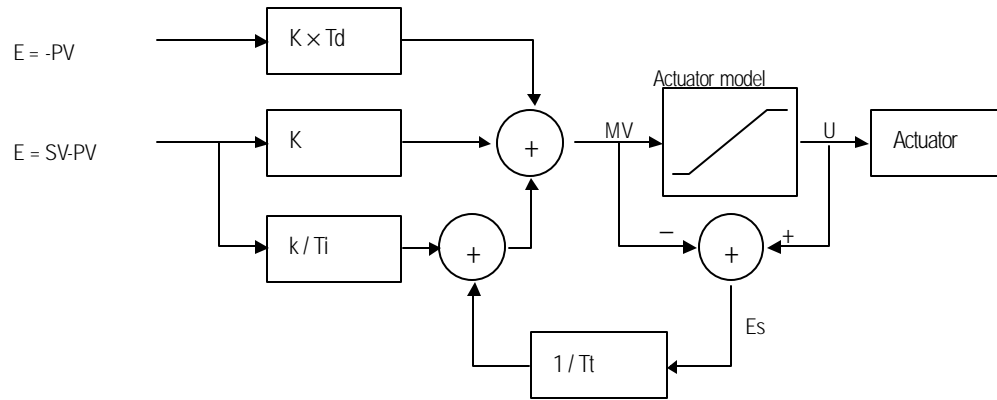
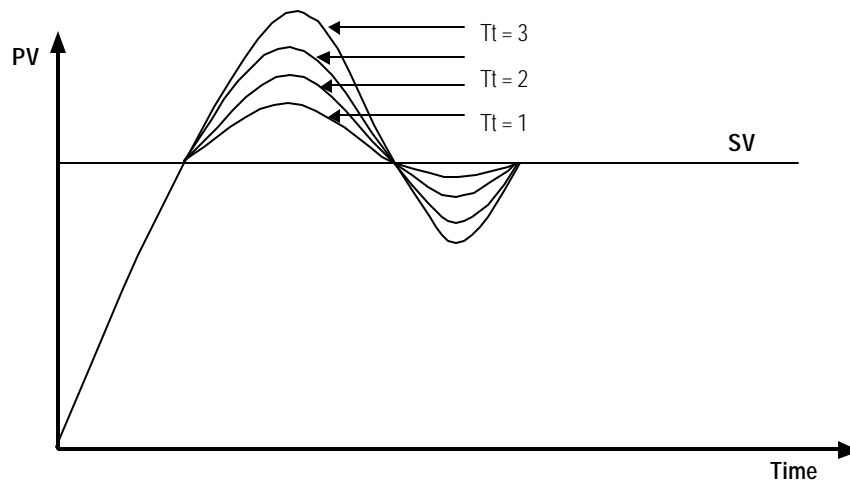

Fig. 2-13 The block diagram of anti-windup control system
Fig. 2-14 The PV output characteristics with different T_i values.
There are several methods to avoid the windup of actuator. The most popular two methods are adding another feedback system to actuator, and using the model of actuator. The Fig. 2-13 shows the block diagram of the anti-windup control system using the actuator model.
As shown in the Fig. 2-13, the anti-windup system feedback the multiplication of gain ($1/T_t$) and E_s to the input of integral term. The E_s is obtained as the difference value between actuator output (U) and manipulation value of PID controller (MV). The T_t of the feedback gain is tracking time constant, and it is in inverse proportion with the resetting speed of integral term. Smaller T_t will cancel the windup of actuator faster, but too small T_t can cause anti-windup operation in derivative operation. The Fig. 2-14 shows several T_t value and PV in the PI control system.